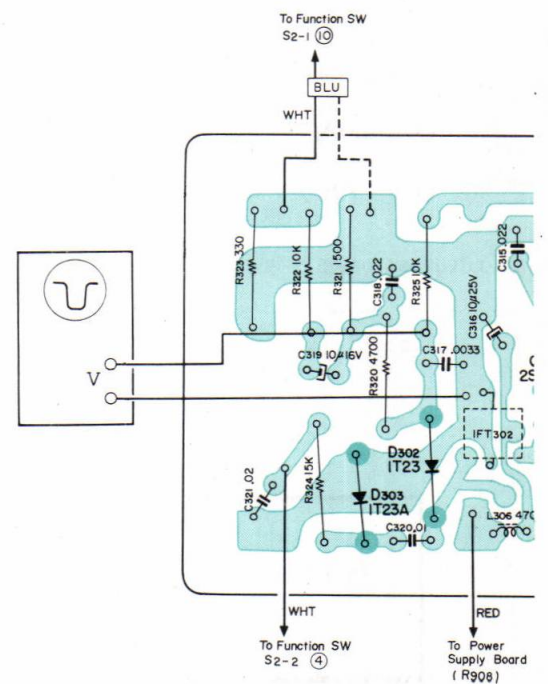

Fig. 3-10 Connection of oscilloscope
2. Solder a hook-up wire to each end of C317 (0.0033 μ F) from the conductor side of the AM CP/I-F board. Connect the oscilloscope to these wires as shown in Fig. 3-10.